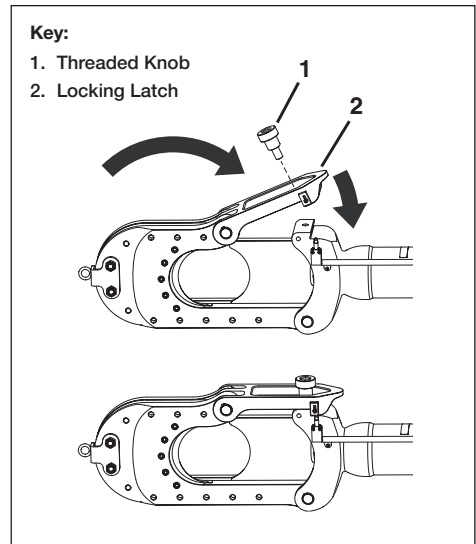

Figure 5, Closing the Cutting Head
To close the cutting head: swing the cutting head toward the cutter body. Then, push down on the locking latch (Figure 5, item 2) and install the threaded knob (Figure 5, item 1) to lock the cutting head in place, as shown in Figure 5.